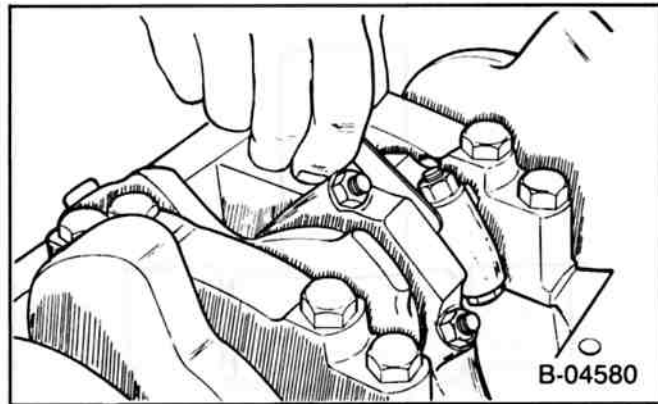

Figure 31—Measuring Connecting Rod Side Clearance
- Connecting rod side clearance. Use a feeler gage between the connecting rod and crankshaft (figure 31). The correct clearance is 0.013–0.023–inch.